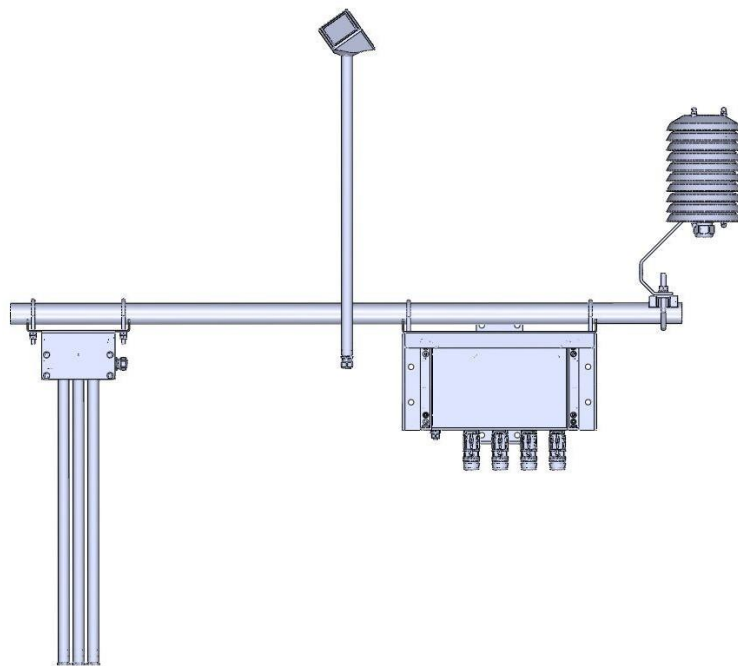

Figure 9 Sensor and controller mounting
2. Attach the supplied \varnothing 34 mm mounting tube to the IDS-20d controller as illustrated in Figure 9. Tighten the shackles around the tube and secure them with additional nuts.